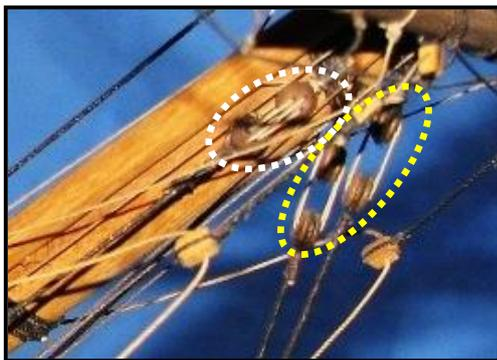

Figure 26: Deadeyes for Bobstays & Shrouds
- counteract the outward tension of the futtock shrouds (Fig. 26)